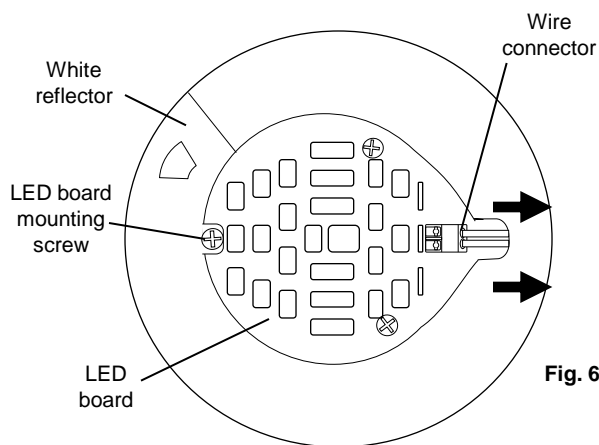

Fig. 6
5. Detach wire connector from LED board. (Fig. 6)
7. Insert the output wires and wire connector of the new LED driver into the heat sink hole and push them into the LED compartment. Connect the wire connector to the LED board. (Fig. 6)